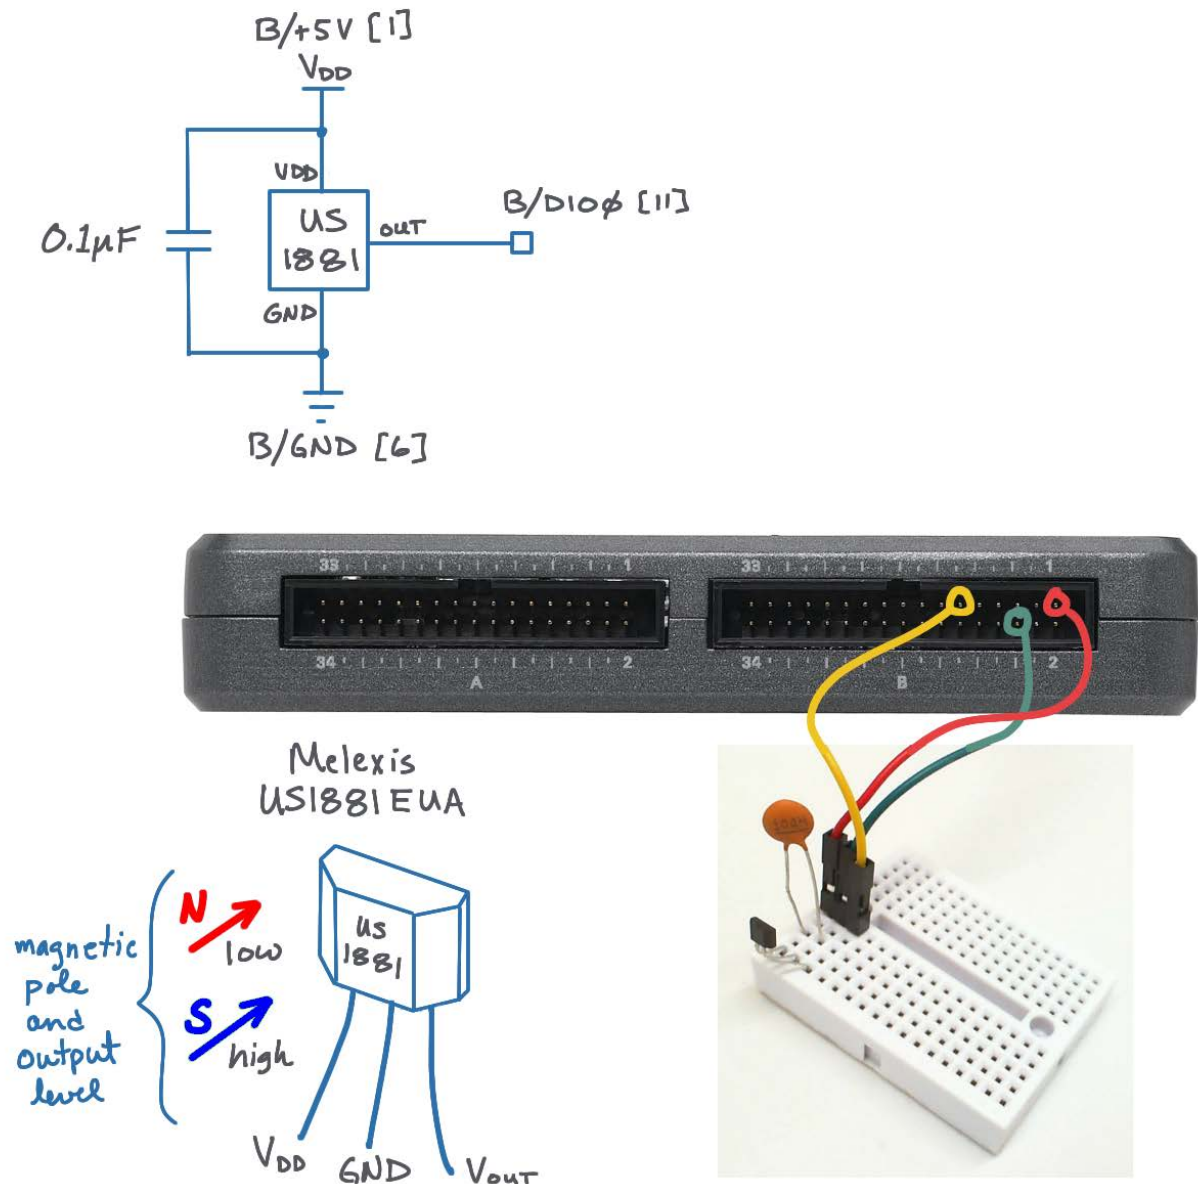

Figure 15.2: Demonstration circuit for Hall effect sensor: schematic diagram, recommended breadboard layout, and connection to NI myRIO MXP Connector B.
**Build the interface circuit:** Refer to the schematic diagram and recommended breadboard layout shown in Figure 15.2 on page 61. The Hall effect sensor interface circuit requires three connections to NI myRIO MXP Connector B (see Figure A.1 on page 233):